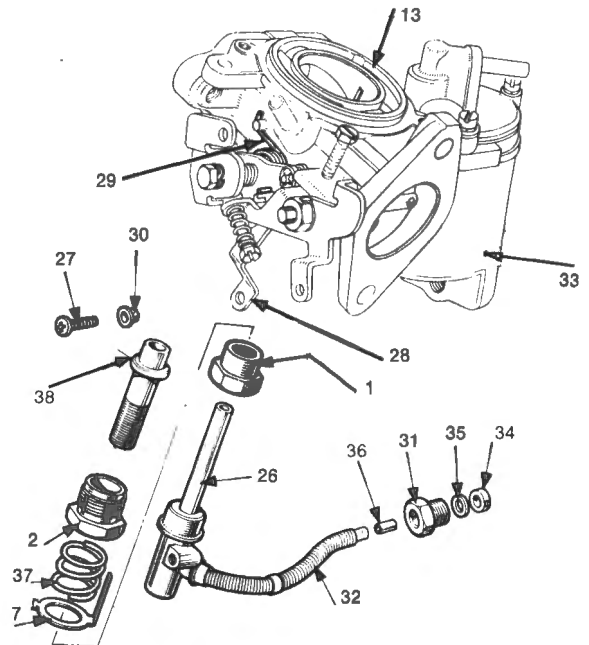

Fig. F-26
- 5 Remove the guide locking screw (72) withdraw the needle assembly (73) support guide (74) and spring (75) taking care not to bend the needle.
- 7 Should the piston lifting pin (23) be fitted with an external spring, remove the spring retaining circlip (24) and spring (25) then push the lifting pin upwards to remove it from its guide. With the concealed spring type (6) press the pin upwards, detach the circlip (26) from the upper end and withdraw the pin and spring downwards. Refer Fig. F-26.